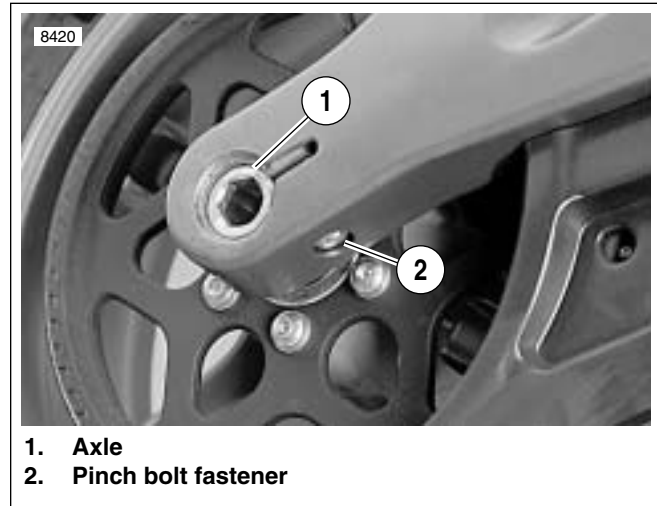

Figure 6-41. Rear Wheel Mounting, Right Side
5. See Figure 6-41. Loosen rear axle pinch fastener (2).
6. Loosen rear axle (1) approximately 15 rotations to allow partial tension to be removed from rear drive system.
5. See Figure 6-41. Tighten rear axle (1) to 23-27 ft-lbs (31.2-36.6 Nm), back off two full turns and then retighten to 48-52 ft-lbs (65.1-70.5 Nm).
6. Tighten rear axle pinch fastener (2) to 40-45 ft-lbs (54-61 Nm).